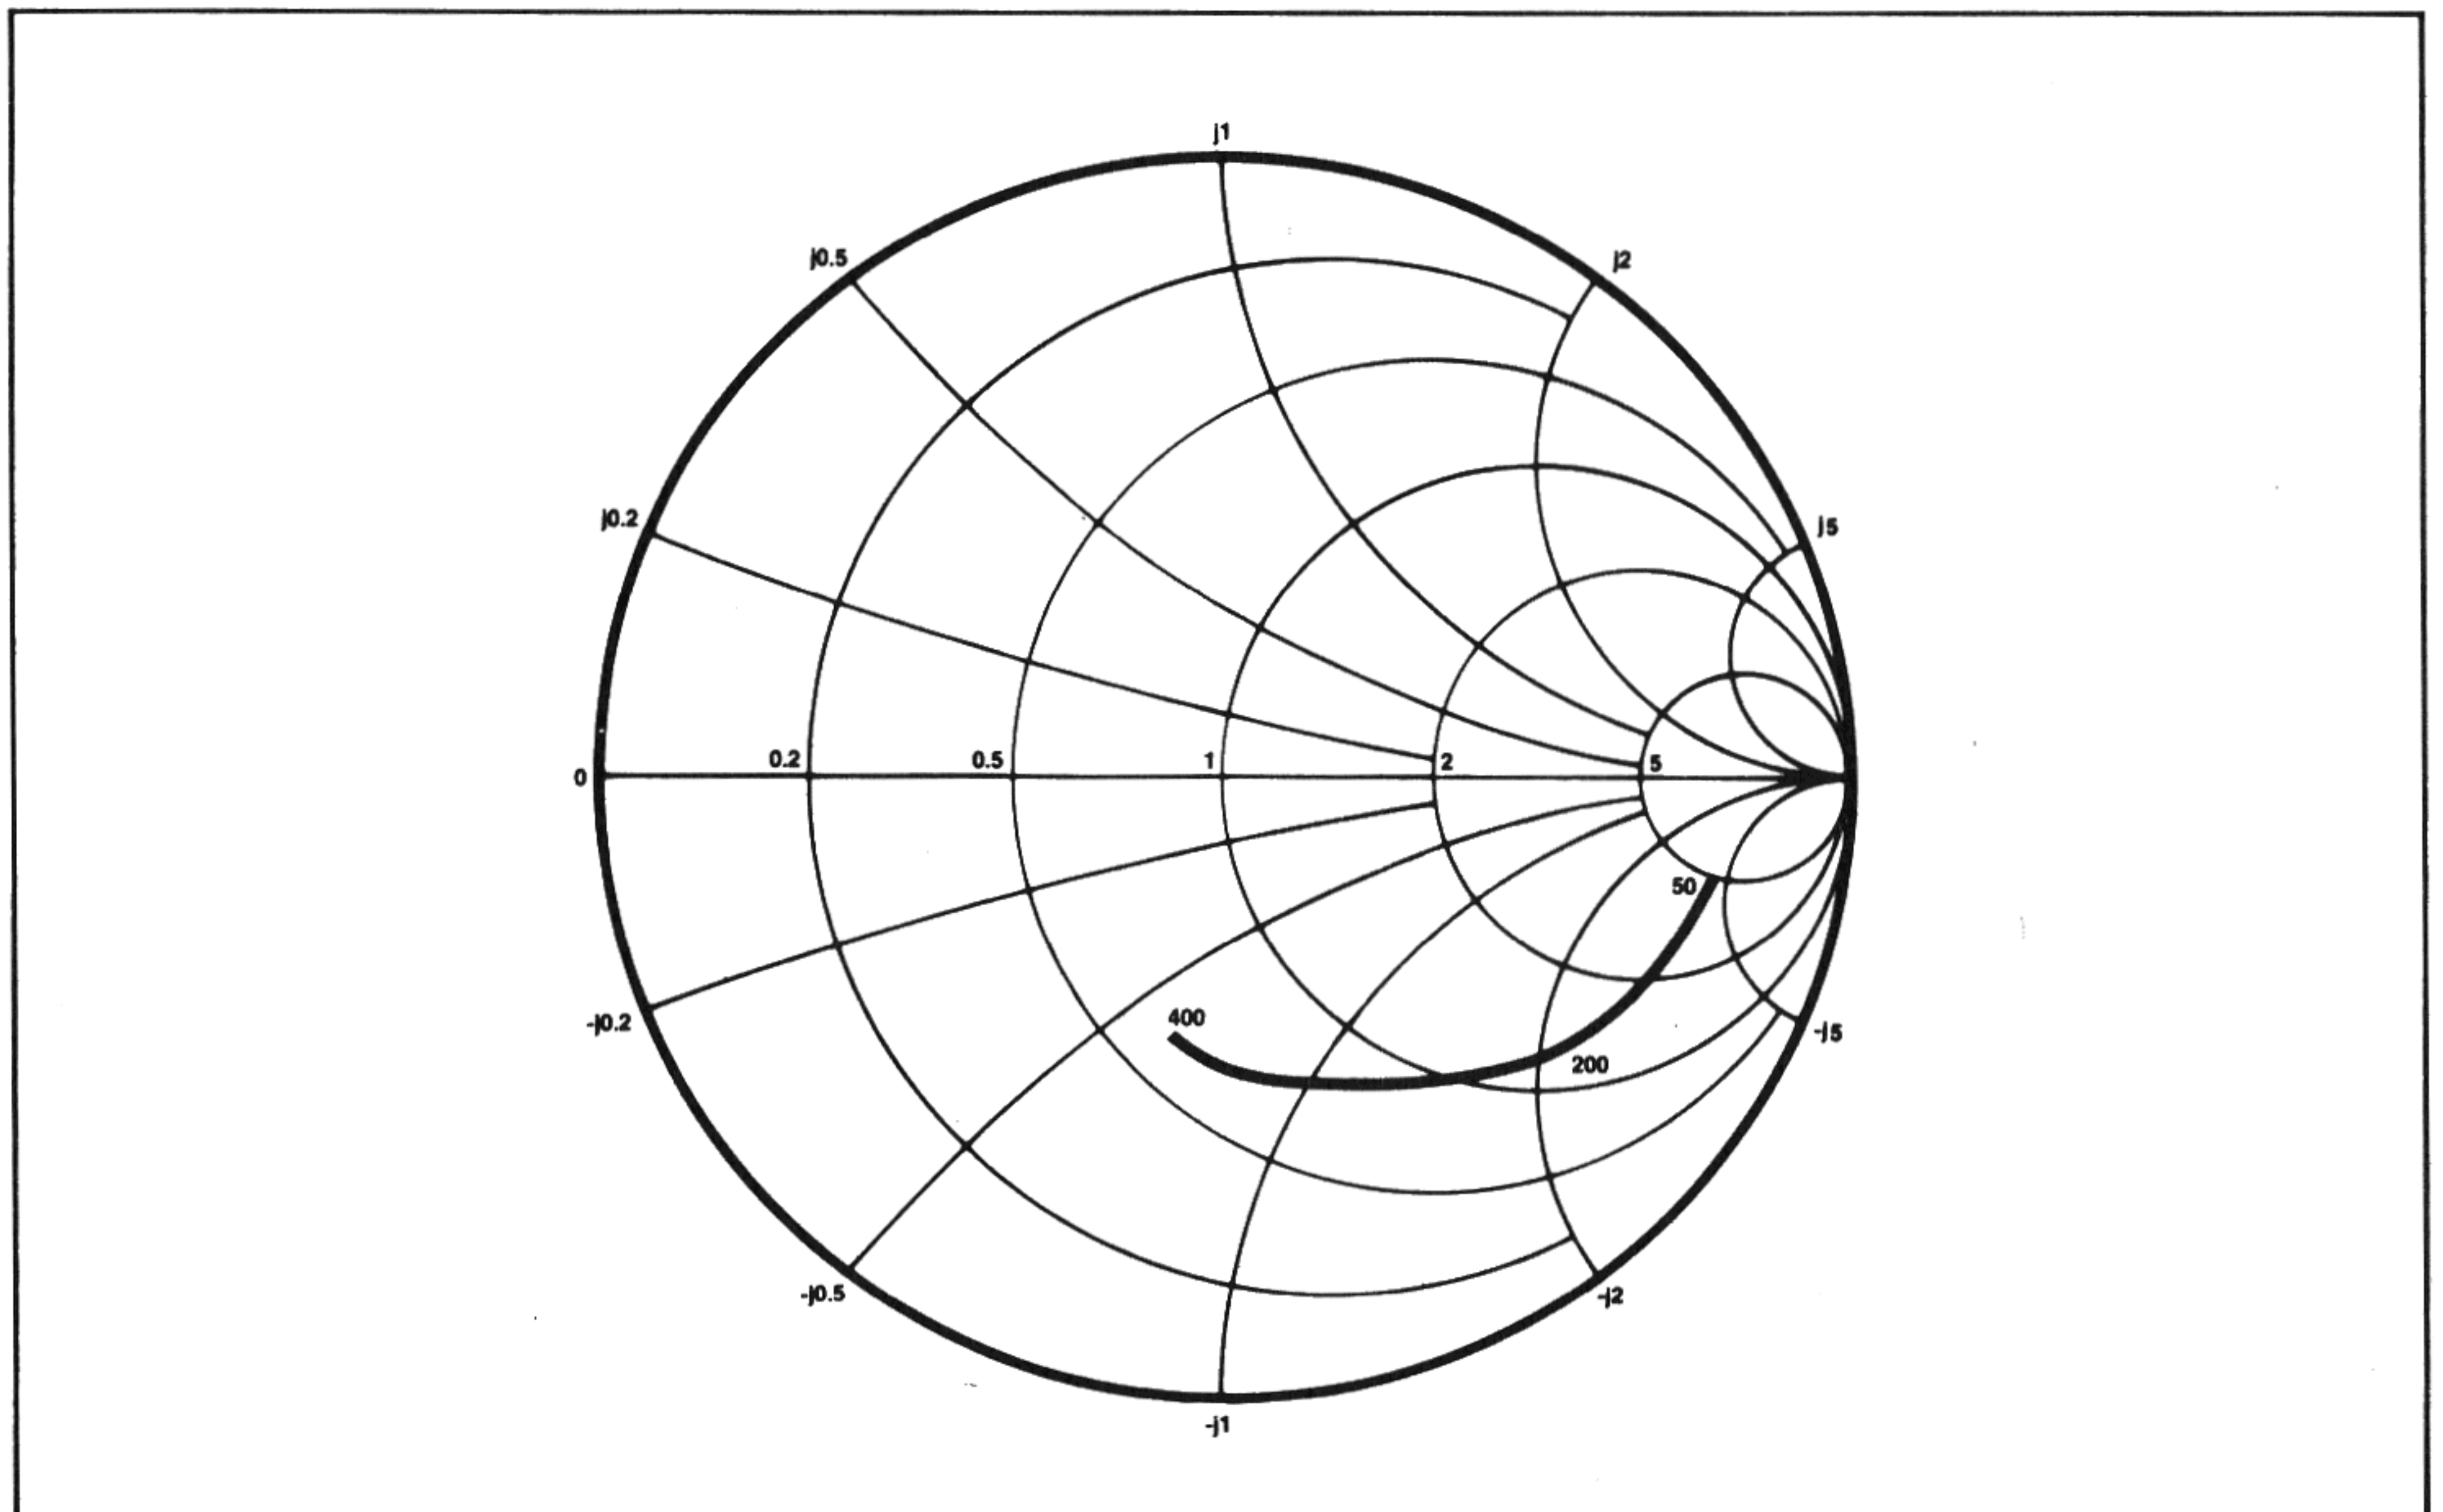

Fig.4 Typical input impedance. Test conditions: supply voltage -5.2V, ambient temperature 25°C, frequencies in MHz, impedances normalised to 50 ohms.
5. Input impedance is a function of frequency. See Fig. 4.